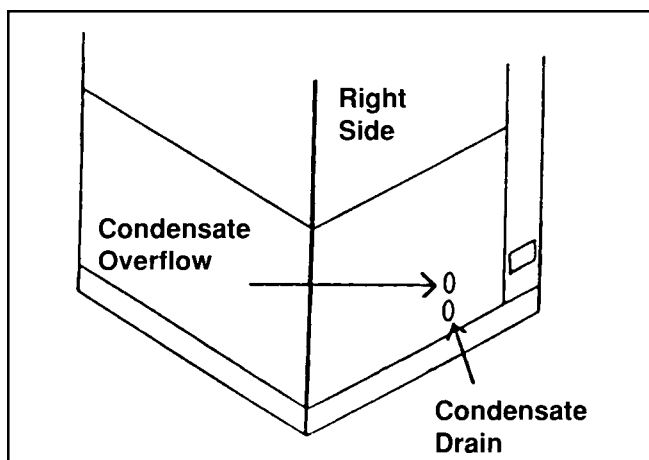

Figure 9. Condensate drain tube outlet.
2. Above the fitting is a hole in the cabinet. Behind this hole is a 1/2" OD tube which serves as a condensate relief if the lower drain becomes blocked (see Figure 9).
signs of water leakage from any of the visible fittings or hose (see Figure 9).